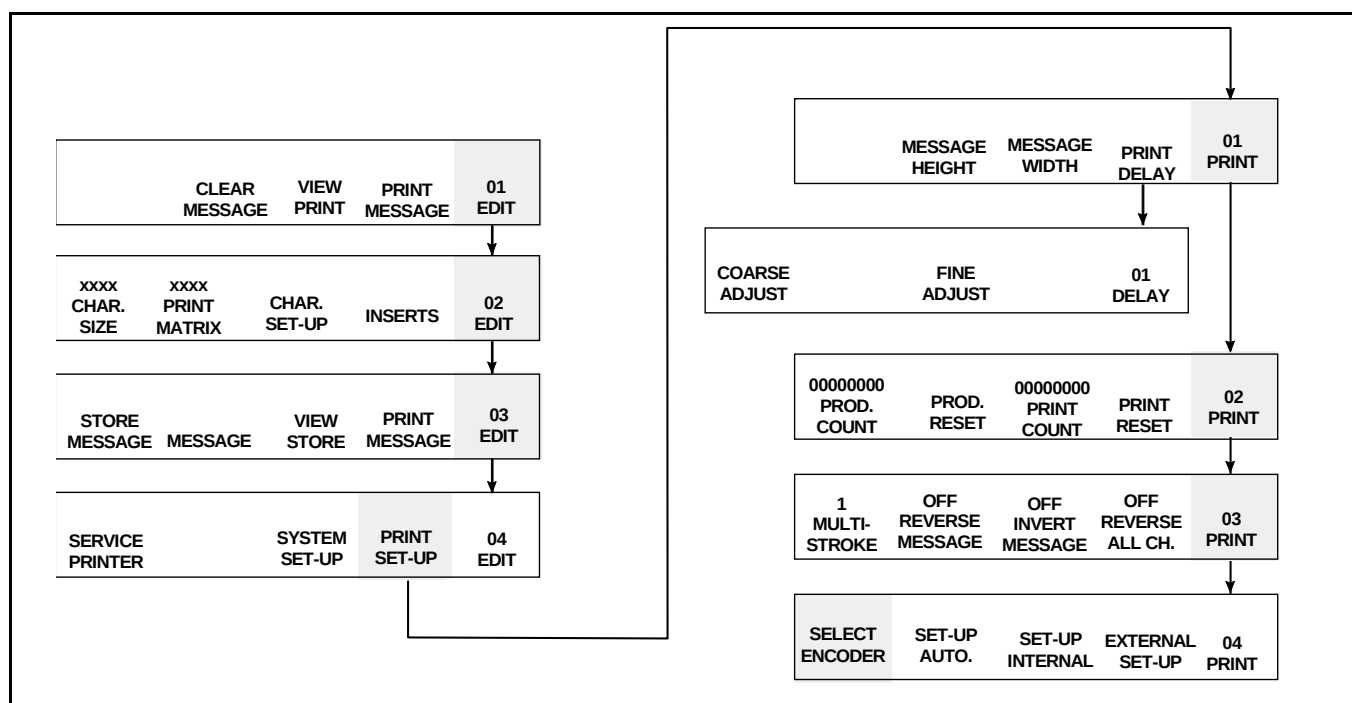

Figure 7-4. Accessing Frame <04 PRINT>
1. Begin in Frame <04 PRINT>. Refer to Figure 7-4.